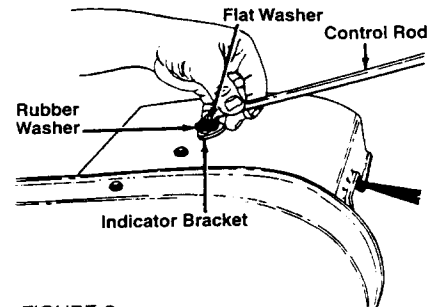

FIGURE 9
- Place flat washer the rubber washer over the hooked end of control rod. Insert end of control rod into the indicator bracket on top of the shift cover, and secure with hairpin clip. See figure 9.